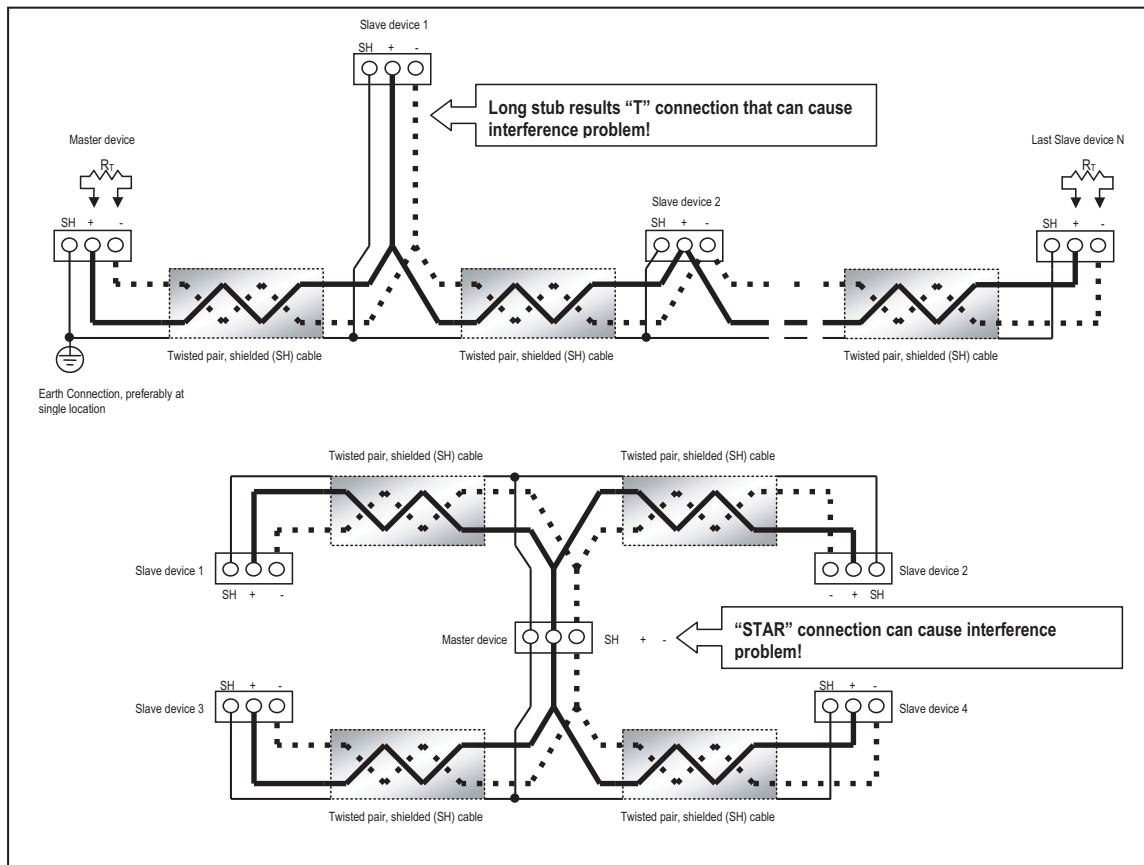

Figure 5.6: Incorrect "T" and "Star" Topologies
- Avoid both "star" and "tee" connections (see Figure 5.6).